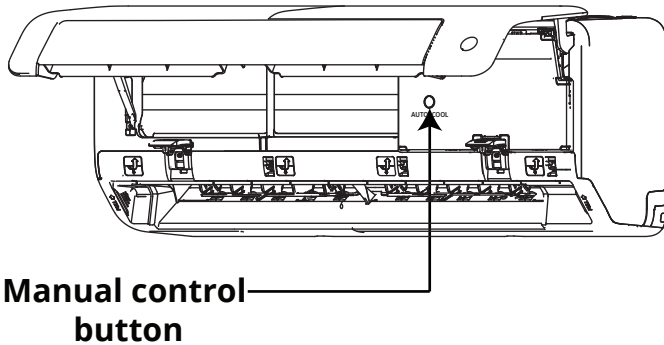

Fig. 10.1
2. The MANUAL CONTROL BUTTON is located on the right-hand side of the unit (Refer to Fig 10.1).